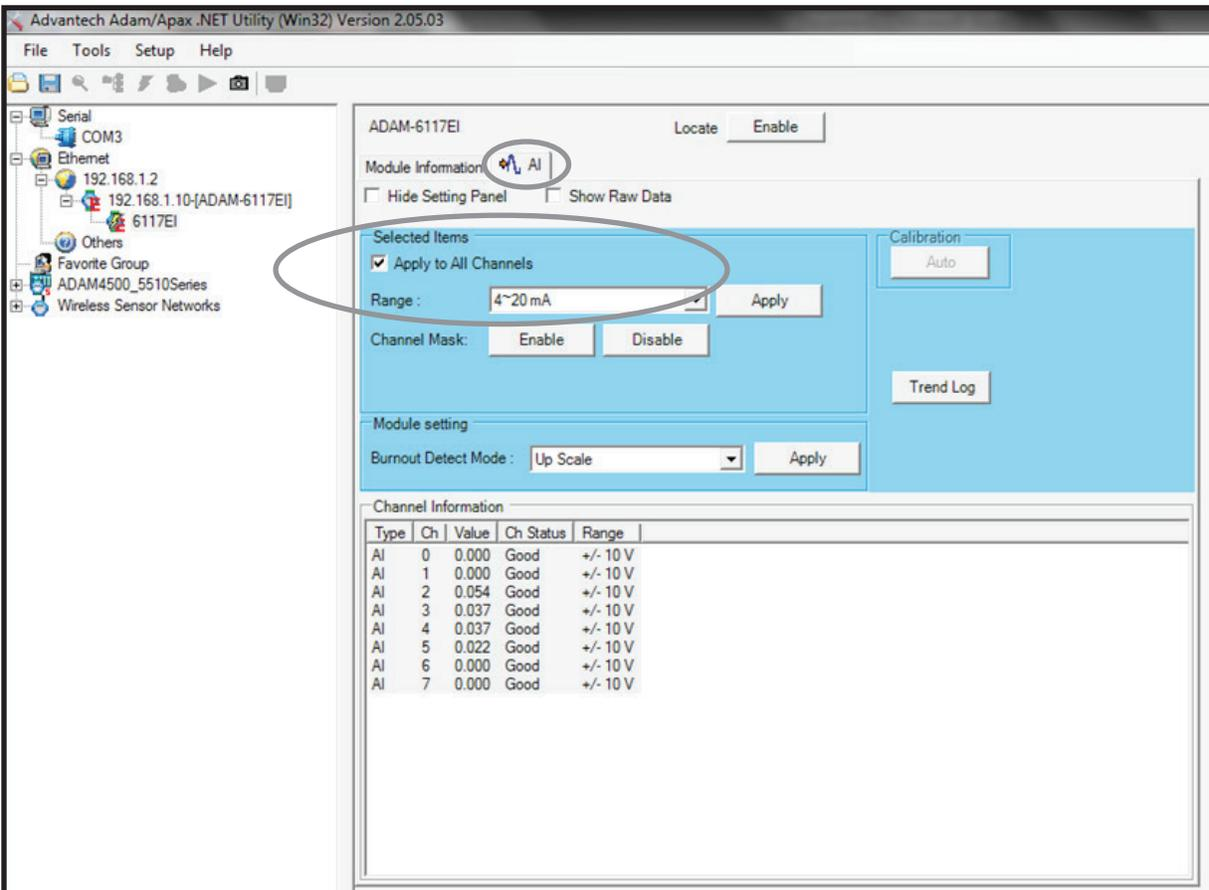

Figure 5—Selecting the input channel range
5. On ADAM 6117 input modules ONLY, select the input channel range for each channel on the module (Figure 5).